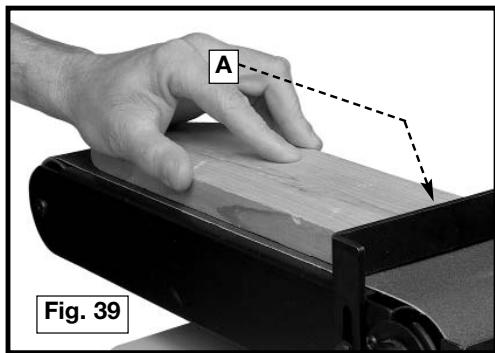
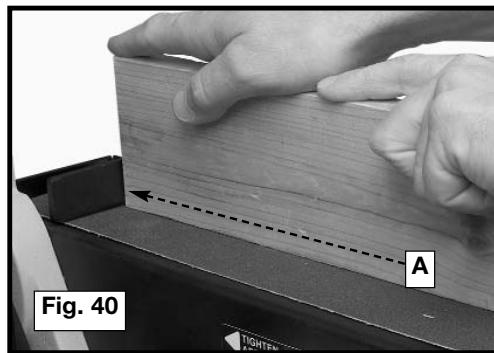

Fig. 39
Fig. 40
Always use the backstop (A) Figs. 39 and 40 when surface-sanding (Fig. 39) or when edge sanding Fig. 40. Hold the workpiece firmly and keep your fingers away from the sanding belt. Keep the end of the workpiece against the backstop and move the workpiece evenly across the sanding belt. Apply only enough pressure to allow the sanding belt to remove material. Use extra caution when sanding very thin pieces.